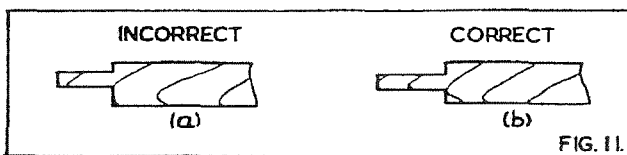

FIG. 11
3. To check this setting feed a short piece of timber from the rear, along both sides of the riving knife. If the riving knife is incorrectly set the blade will cut unequal shoulders as shown in Fig. 11 (a) and when correctly set equal shoulders as shown in Fig. 11 (b).